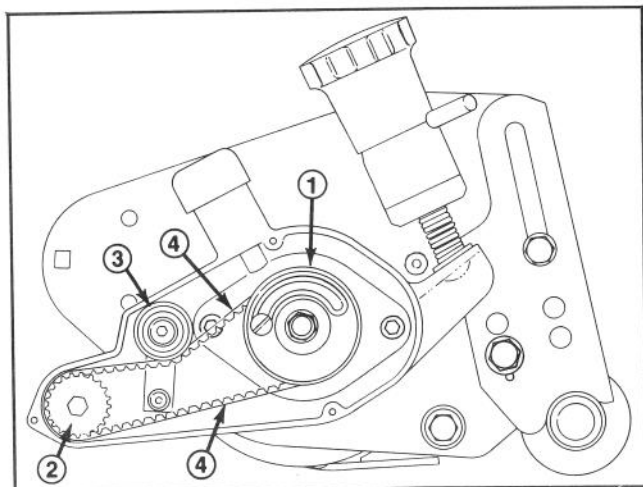

Figure 15
- C. Fit the toothed belt over the drive pulley (removed in step 13B). Hold the belt in position and slide the drive pulley in place on the clutch adapter while positioning the belt around the driven pulley and under the backside idler (Fig. 15).
drive belt. There should be 1/4 inch belt deflection. If deflection is not 1/4 inch, loosen the backside idler pulley pivot screw (Fig. 15). Pivot the idler to achieve proper tension and torque the allen head screw to 7-10 ft-lb.